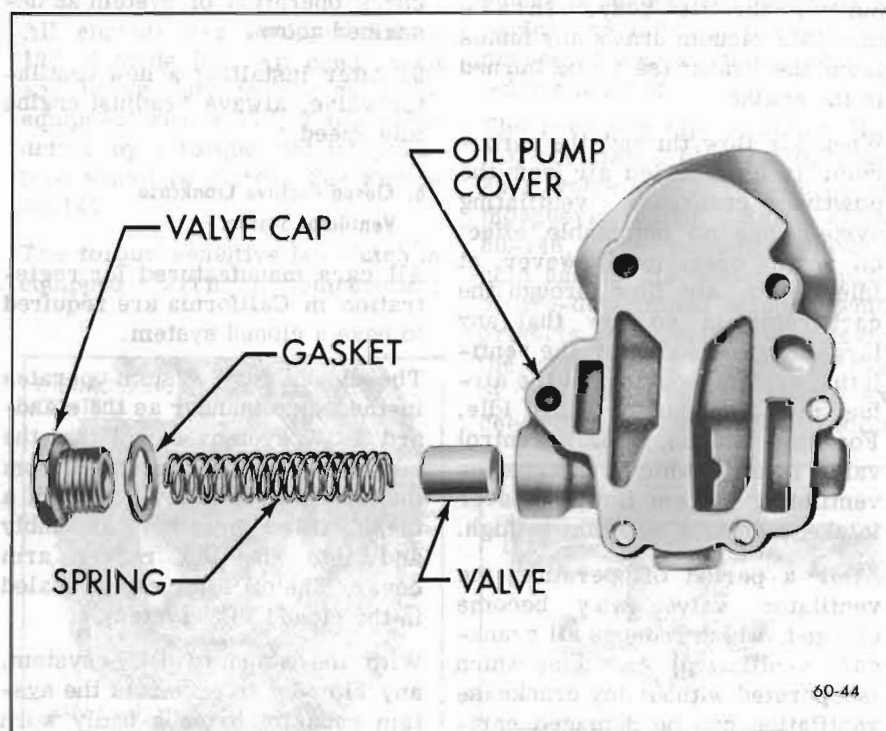

Figure 60-143—Oil Pump Cover and By-Pass Valve
5. Remove the oil pressure relief valve cap, spring and valve. See Figure 60-143. Oil filter by-pass valve and spring are staked in place and should not be removed.
1. Lubricate and install pressure relief valve and spring in bore of oil pump cover. See Figure 60-143. Install cap and gasket. Torque cap to 30-40 lb. ft. with a reliable torque wrench. Do not over-tighten.